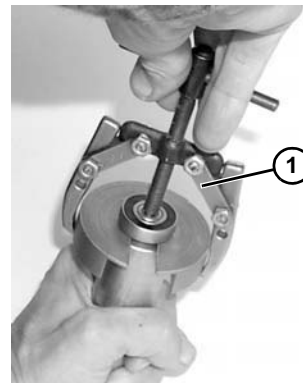

Figure 121
2. Using puller part #807-1716 (Figure 121, item 1), remove and discard bearing.